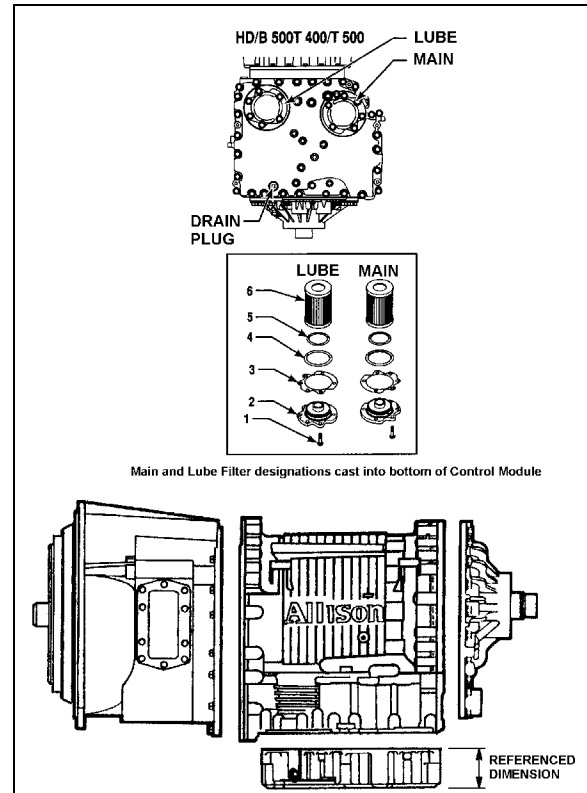

FIGURE 7: DRAIN PLUG AND FILTERS
2. Remove the drain plug from under the transmission (Fig. 7) and allow the oil to drain into a suitable container. Check the condition of the oil as described previously.
3. Remove twelve bolts (item 1), two filter covers (item 2), two gaskets (item 3), two O-rings (item 4), two O-rings (item 5) and the two filters (item 6) from the bottom of the control module (Fig. 7).
4. When reinstalling parts, lubricate and install new O-rings (4) and (5) on each cover (2). Lubricate O-ring inside filter (6) and push filter onto cover (2). Install new gaskets (3) on cover (2) and align holes in gaskets with holes in cover.